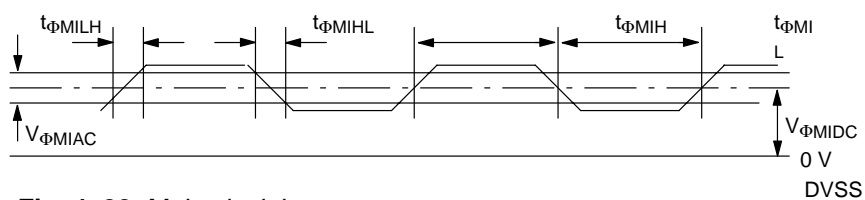

Fig. 4–22: Main clock input
4.6.4.2. 20 MHz Clock Input/Output, External Clock Input (XTAL1) (see Fig. 4–22)